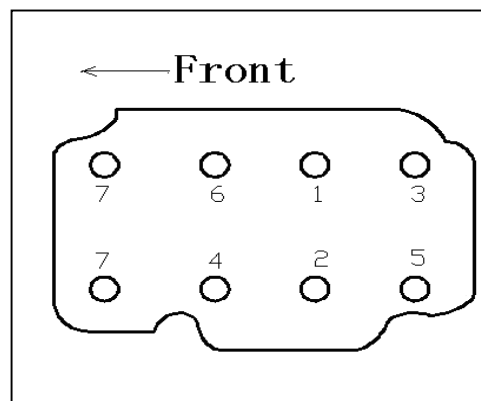

Fig.3-3
C. Tightening and removing cylinder head bolts. The tightening order for cylinder head bolts is shown in fig.3-3.tighten bolts uniformly in three steps. Unfasten are remove bolts in reverse order.